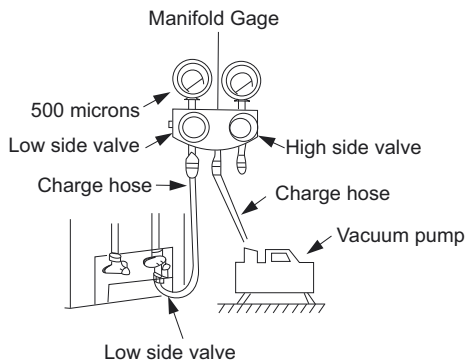

Fig. 14 — Manifold
3. Fully open the low side of manifold gage (see Fig. 14).